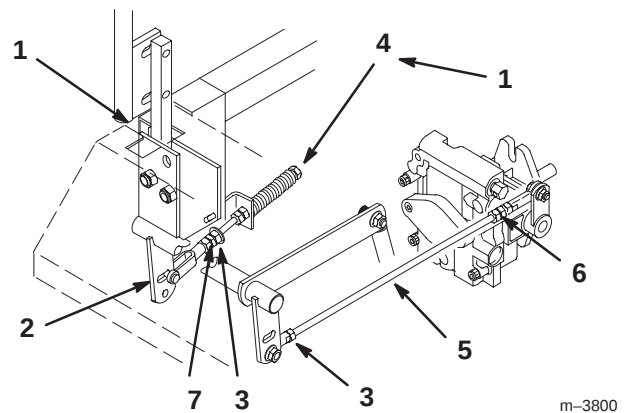

Figure 56
2. Begin with either the left or right motion control lever. Move lever to the neutral (but not locked) position and pull lever back until the clevis pin (on arm below pivot shaft) contacts the end of the slot (just beginning to put pressure on spring) (Fig. 56).
3. Check where lever is relative to notch in console (should be centered allowing lever to pivot outward to the neutral lock position) (Fig. 56).
4. Loosen locknut at ball joint on pump control rod (Fig. 56).
6. Adjust pump rod length by rotating double nuts on rod, in the appropriate direction, until wheel is still or slightly creeps in reverse (Fig. 56).